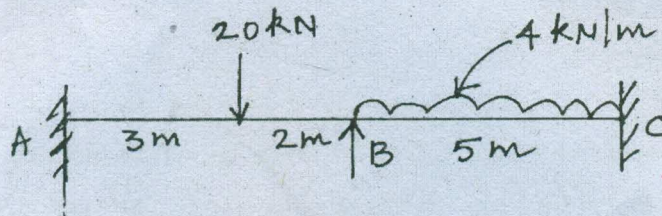

Fig. Q. 15 (a)
15. (a) Analyze the continuous beam ABC shown in Fig. Q. 15 (a) by moment distribution method and draw the BMD and SFD. Take $EI = \text{constant}$.